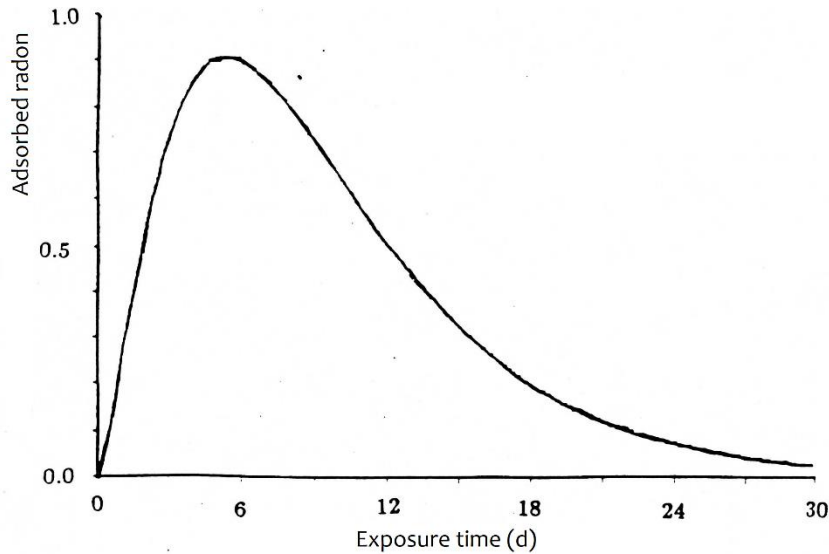

Fig. A.1: After 6-7 days the amount of decaying particles is greater than the amount of radon that could be accumulated for adsorption.
2. Open the canister and leave it opened in the selected location for a time duration from 2 to 6-7 days. As can be seen from **Fig. A.1**., after that period the amount of decaying particles will overcome the radon adsorption, and it is not therefore convenient to leave it for more than 6-7 days.